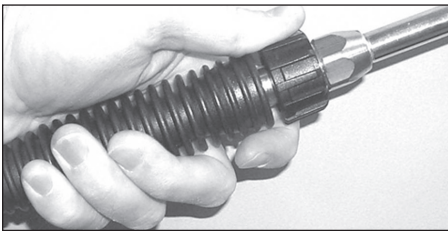

Figure 6 – Attach lance to gun
5. Attach the lance to the gun (see Figure 6).